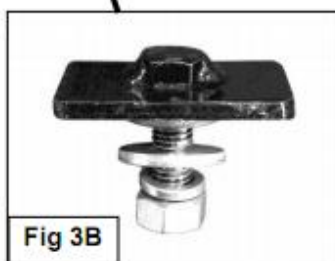
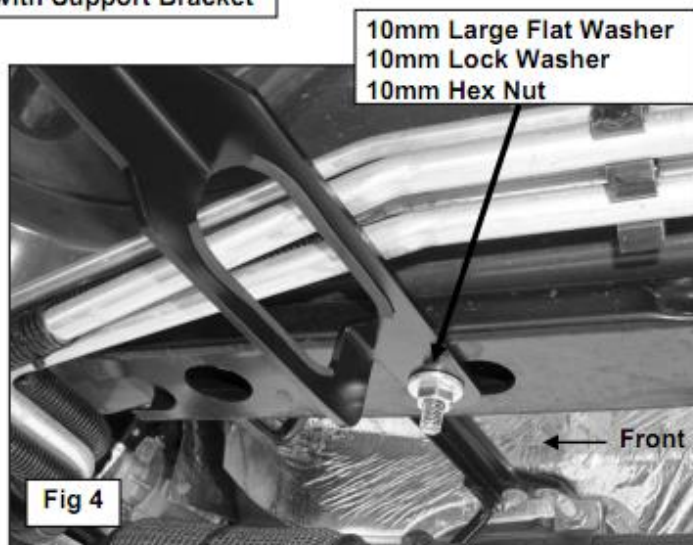

Fig 3B
Fig 4
4. Insert (1) 10mm x 35mm Wide T-Bolt Plate, (Figure 3B), into the large round hole in the bottom of the inner frame channel, (Figure 3A). Rotate the Bolt Plate so that the plate is in line with the Support Bracket and 90-degrees to the direction of the frame channel. Select the driver side Front Support Bracket. Hang the Support Bracket from the Bolt Plate and secure it with the included (1) 10mm x 27mm Large Flat Washer, (1) 10mm Lock Washer and (1) 10mm Hex Nut, (Figure 4). Do not tighten hardware at this time.